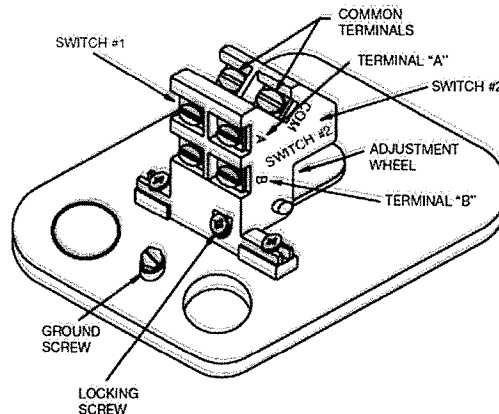

FIGURE 1
- 3.3.2 Back out the locking screw (see Figure 1) to allow main adjustment wheel to turn freely.
- b) Adjust main adjustment wheel (see Figure 1) to desired setting for pump to turn ON.